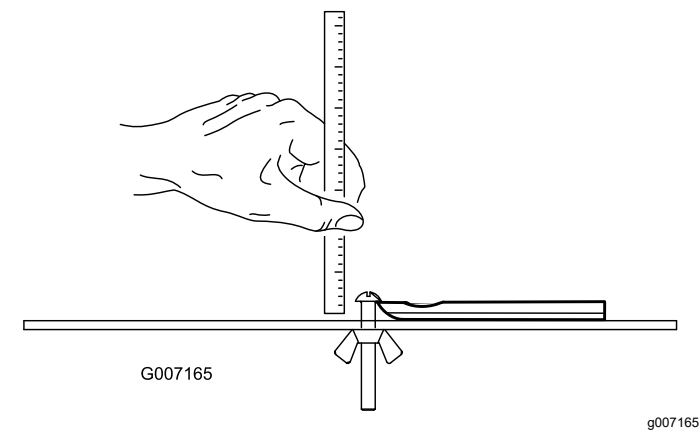

Figure 32
**Note:** All bedknife service limit measurements relate to the bottom of the bedknife (Figure 32).